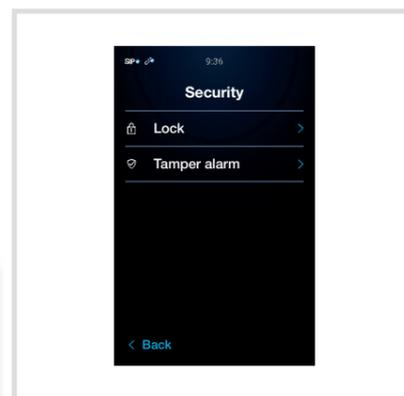

Fig. 38: Security settings
- Select the security setting to be changed on the touch display and follow the instructions on the display (Figure 38).